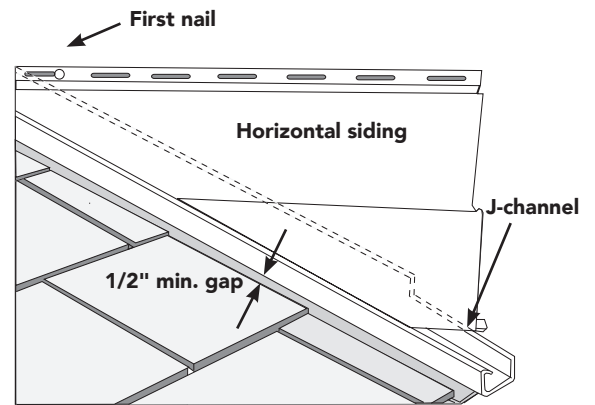

Figure 32
- Fasten the nail, screw, or staple that is closest to the roof line at the far end of the nail hem slot, to ensure that siding will expand away from the J-channel (Figure 32).